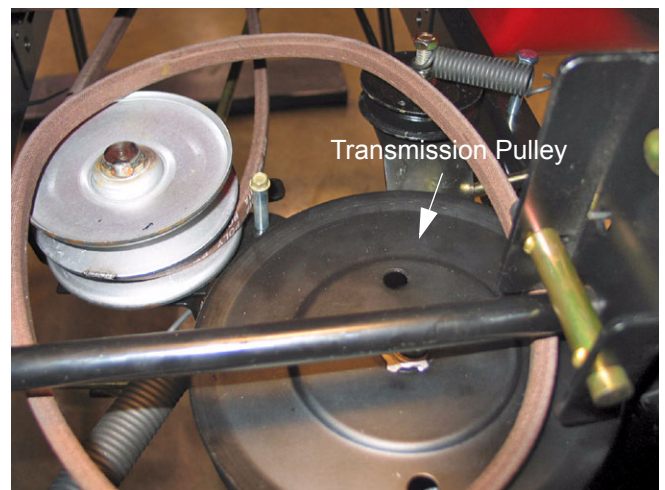

Figure 29
- 7.6. Lift the pulley off the transmission and remove the belt from around the pulley. See Figure 29.